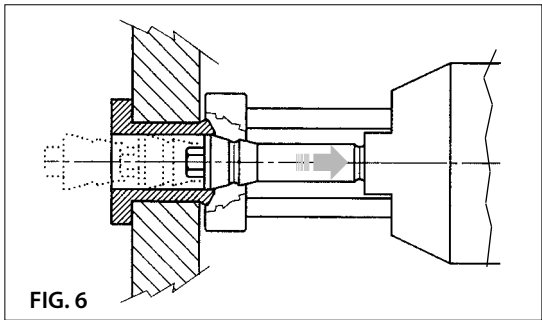

FIG. 6
2.6) Operate the pump, to pull the plunger OG ... through the bush and extrude the bush onto the sides of the hole (Fig. 6).